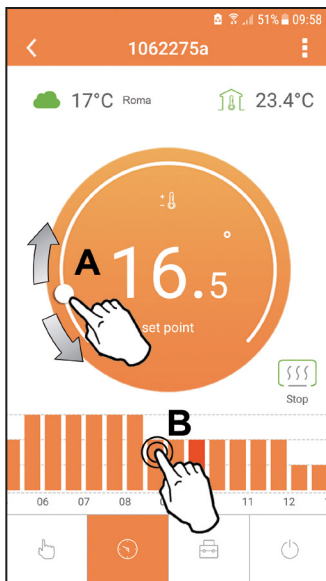

fig. 17
In this mode the desired temperature for the various time slots of all days of the week can be set by pressing where (B) indicated in fig. 17.